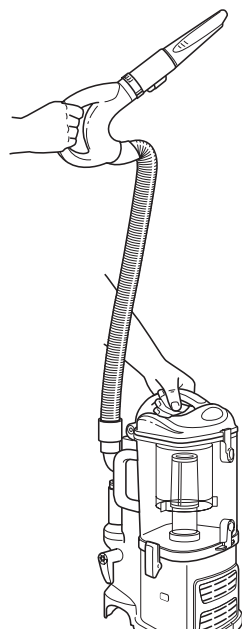

Fig. 15
- 4 Press the On/Off switch to the "I" position to turn the vacuum on for above-floor cleaning and hold the handle in one hand while you carry the portable *Lift-Away*™ around the house with the other hand. (Fig. 15)